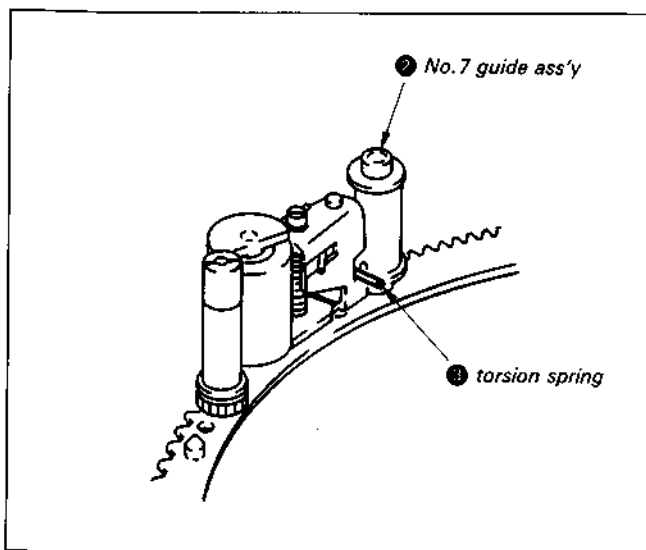

Fig. 7-15.
- 3) Change the position of the torsion spring ③ on No. 7 guide assembly ②. (See Fig. 7-15.)